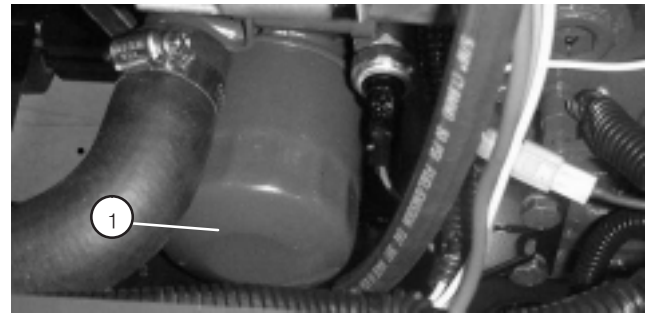

Figure 41
5. Remove and replace oil filter (Fig. 41).